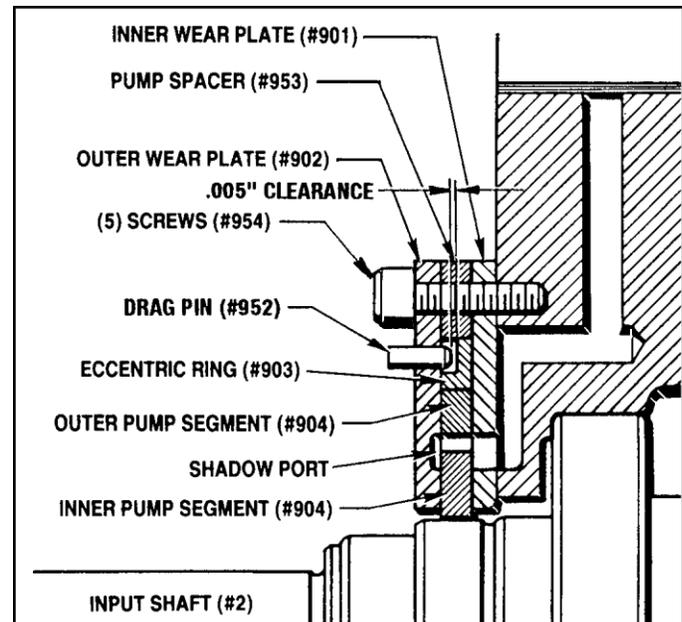

Figure 9.06 - Hydraulic Pump Assembly (Cross Section)
6. Install the Drag Pin (#952) into the Outer Wear Plate (#902) leaving .005" clearance between the bottom of the Eccentric Ring (#903) groove and the pin. (See Figure 9.06). Set this aside for later assembly.